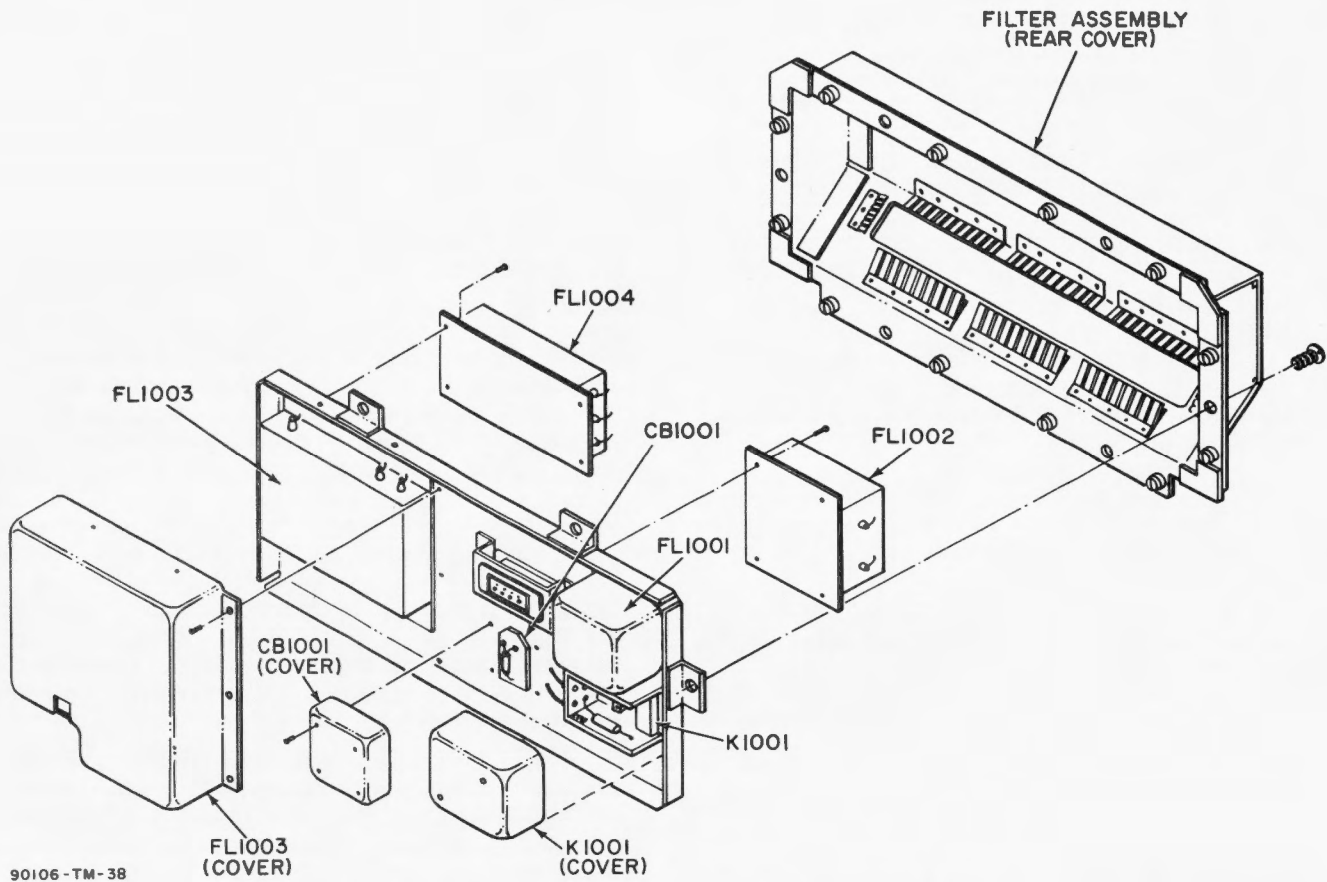

Figure 6-13. Radio Interference Filter, Exploded View
(1) THERMAL CIRCUIT BREAKER CB1001 (see figure 6-13). - To remove thermal circuit breaker CB1001, proceed as follows:
(2) RELAY K1001 (see figure 6-13). - To remove relay K1001, proceed as follows:
(3) FILTER FL1003 (see figure 6-13). - To remove filter FL1003, proceed as follows:
(4) FILTER FL1001, FL1002 OR FL1004 (see figure 6-13). - To remove filter FL1001, FL1002 or FL1004, proceed as follows: